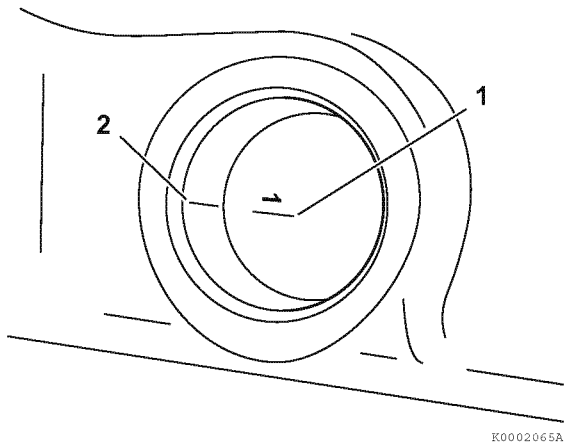
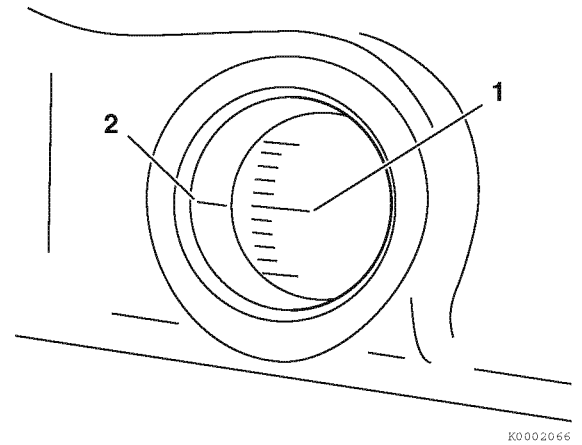
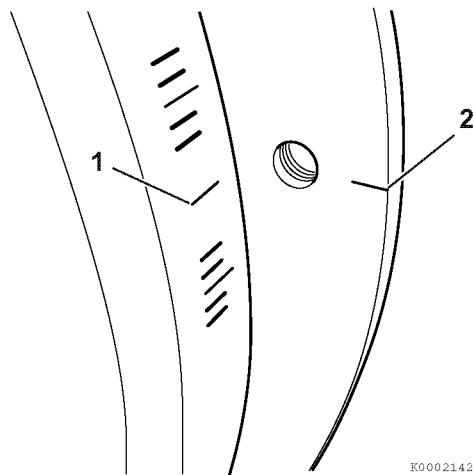

Figure 7-25
Figure 7-27
Figure 7-26
- Highlight the timing reference mark on the flywheel housing (**Figure 7-25, (2)**) or engine back plate (**Figure 7-26, (2)**). Highlight the TDC (Top Dead Center) mark (**Figure 7-25, (1)**), (**Figure 7-26, (1)**) on the flywheel.
10. Highlight the target timing mark (Figure 7-26, (1)), (Figure 7-27, (1)) on the flywheel timing grid as determined in the Fuel injection timing chart below.
18. Check the position of the flywheel target timing mark (**Figure 7-27, (1)**) on the flywheel grid in relation to the timing reference mark (**Figure 7-27, (2)**) on the flywheel housing or back plate. If the two marks are aligned, the fuel injection timing is correct. If the marks do not align, the fuel injection timing must be adjusted. See *Adjusting Fuel Injection Timing* on page 7-21.